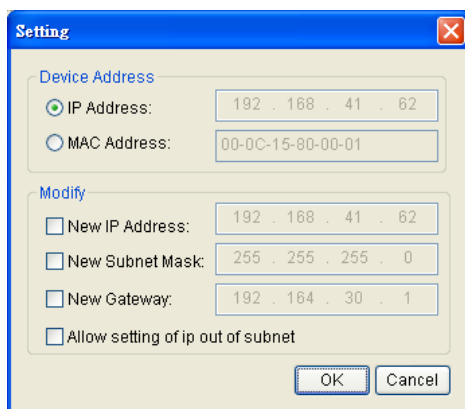

Figure 2. The SNMP card setting window.
5. You can modify the new IP, new subnet mask, and new gateway address through the IP or MAC address in the SNMP card setting window, as shown in figure 2.